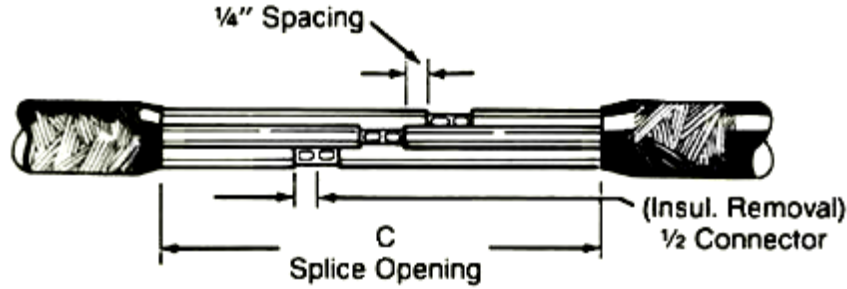

Figure 3
- e. Cut off individual conductor ends to allow for connector staggering with a maximum splice opening of Dimension "C". Provide for 1/4" spacing between connector ends. (Table 1 and Figure 3)
- f. Remove conductor insulations for 1/2 connector length. (Figure 3)